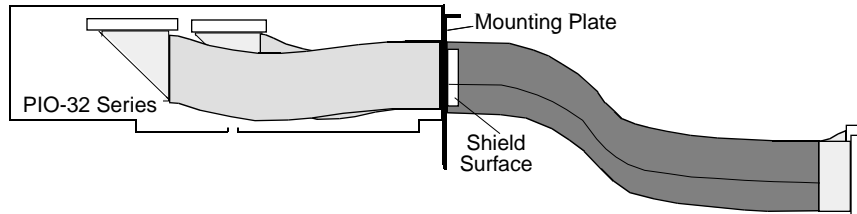

Figure 6. Cabling Reconnected, Placing Shield Surface in Line with Clamp
7. Slide cabling back through mounting plate and plug the cable connectors back into the board, placing shield surface directly in line with mounting-plate clamp, as shown in Figure 6.